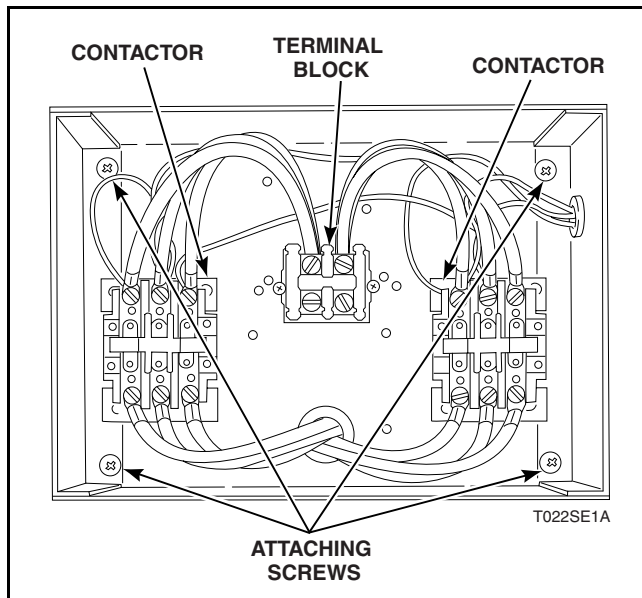

Figure 25
Refer to *Figure 25*.
- Remove two screws holding terminal block to box. Refer to *Figure 25*.